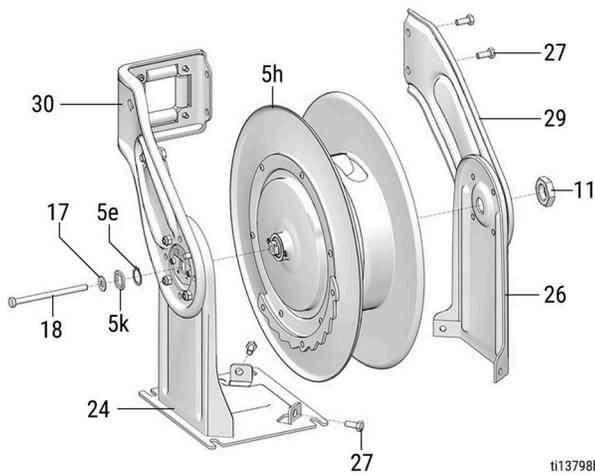

FIG. 21
5. Remove the large nut (11) (FIG. 21).
6. Remove the two screws (27) holding the pedestal (26) to the base (24) and the two screws (27) holding the guide arm (29) to the guide arm (30) (FIG. 21).
7. Completely remove, as one piece, the guide arm (29) and pedestal assembly (26) and set it aside for re-installation on the new spool (FIG. 21).
9. Remove the long bolt (18) and washers (15 and 17) (FIG. 21).